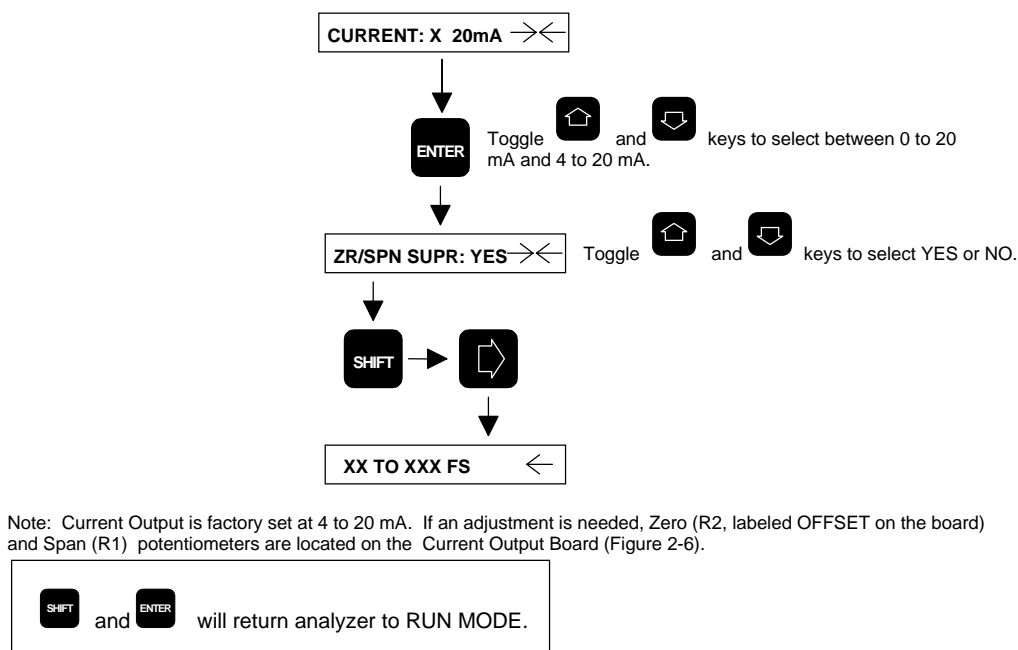

FIGURE 3-13. CURRENT OUTPUT MODE
Refer to Figure 3-13. The Model 880A Analyzer has a standard 0 to 20 or 4 to 20 mA current output with zero span suppression. This function can represent any suppressed range with at least a 25% span. For example, a valid range could be 0% to 25%, 28% to 61% or 33% to 100%. When the Zero Span Suppression is off (NO), the analyzer defaults to the 0% to 100% range.